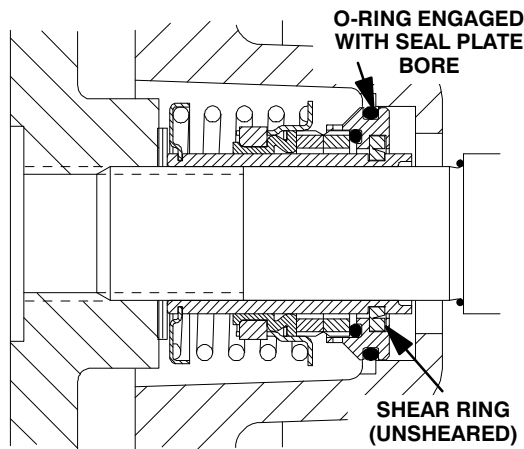

Figure 10. Seal Partially Installed
Clean and inspect the impeller as described in **Impeller Installation and Adjustment**. Install the full set of impeller shims (29) provided with the seal, and screw the impeller onto the shaft until it is seated against the seal (see Figure 10).